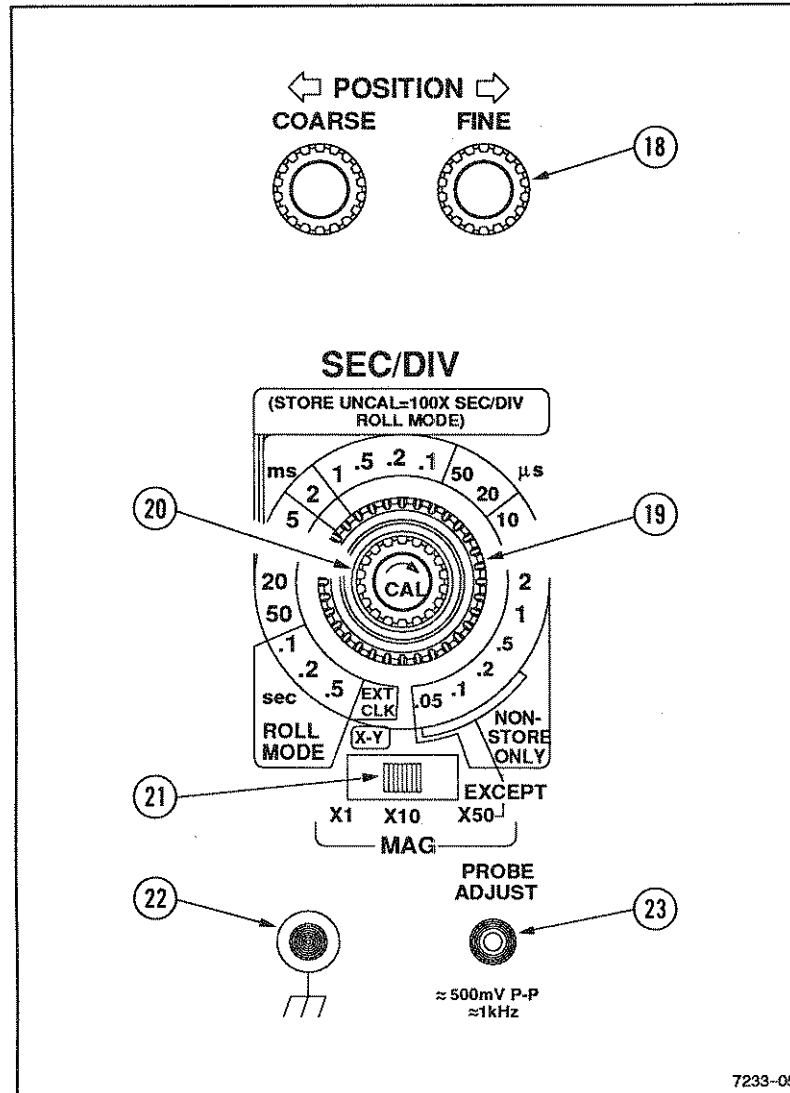

Figure 3-3. Horizontal controls.
See Figure 3-3 for the location of items 18 through 23.
- ⑫ **Horizontal POSITION Controls** – Position all the waveforms horizontally over a one-sweep-length range in X1, X10 or X50 Magnification. In STORE mode, with  $\Delta t$  cursors selected, operation of the Horizontal POSITION controls also moves the cursors as they are attached to the waveform(s).